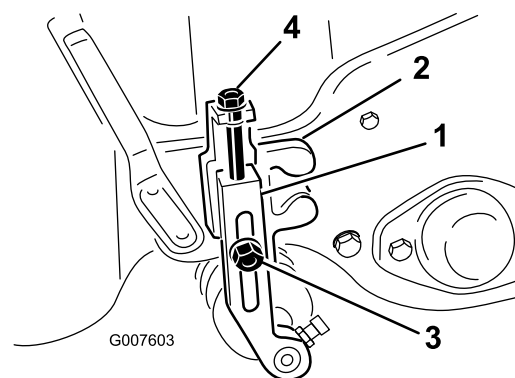

Figure 48
2. Loosen the locknuts securing the height-of-cut arms to the height-of-cut brackets (Figure 48).